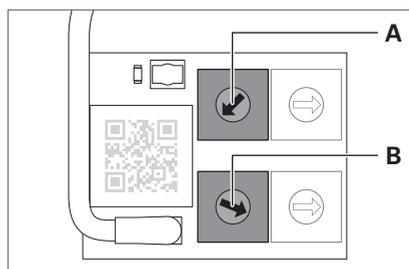

Fig. 6: Two rotary coding switches for area assignment.
- ▶ To set the first digit from the right of the two-digit hexadecimal area address, set the rotary encoding switch **A** to the desired value, see Fig. 6.